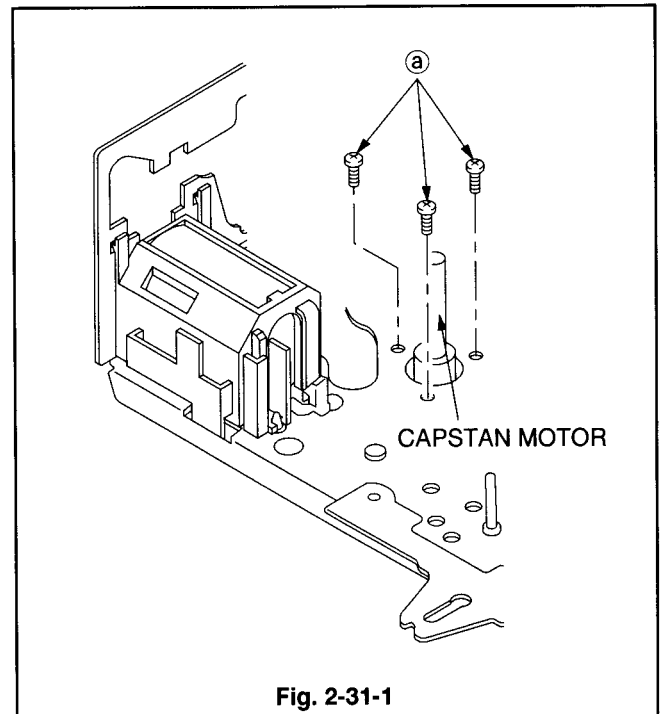

Fig. 2-31-1
- 1 Unscrew the CAPSTAN MOTOR fastening the three screws (a) shown in Fig. 2-31-1 to remove the CAPSTAN MOTOR.
- 2 Install the three screws (a) shown in Fig. 2-31-1.